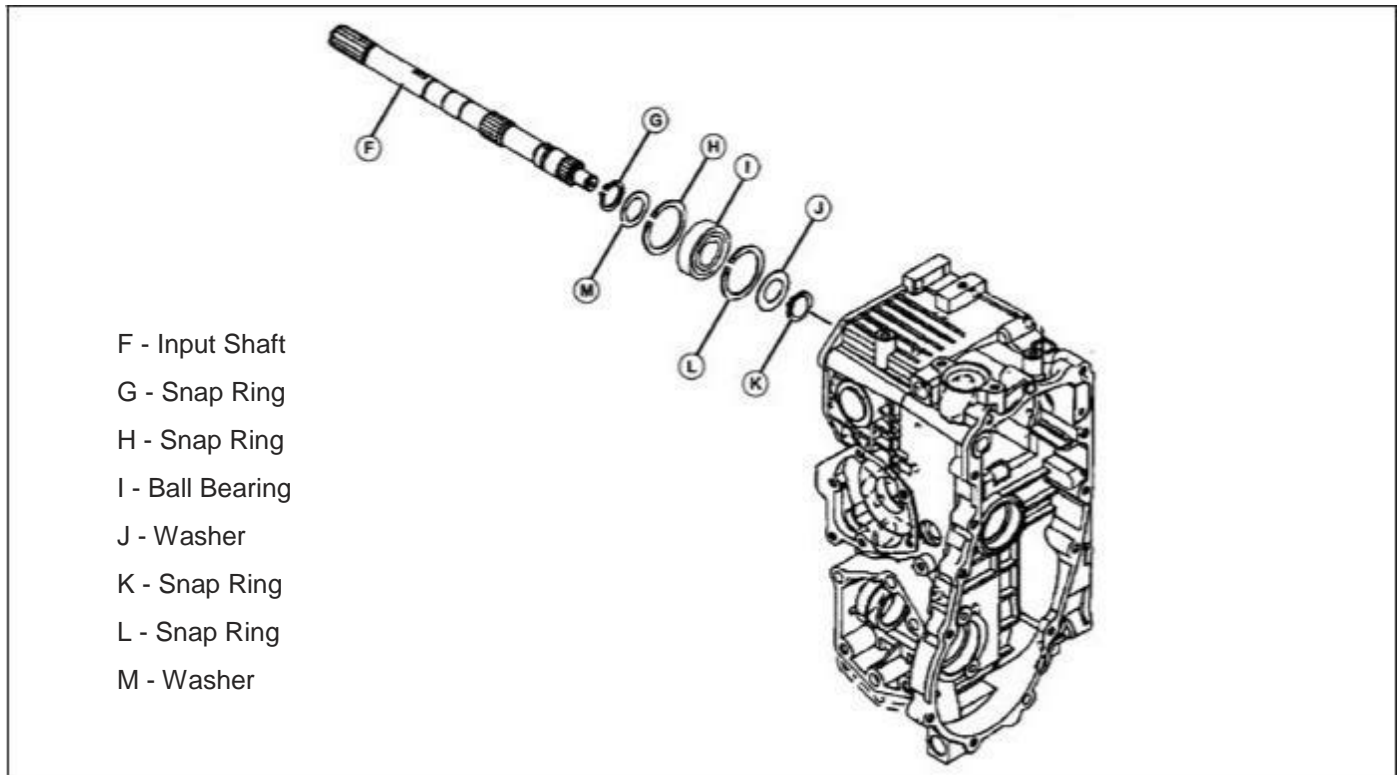

Fig. 63, Transaxle Input Shaft Disassembly
6. Remove PTO brake shoe (B) and clutch (A). (See "PTO Brake Removal and Installation" on page 6.)
7. Remove large snap ring (H) and input shaft assembly.
8. Remove large snap ring (L), small snap rings (G and K) washers (M and J), and ball bearing (I) from input shaft (F). (Fig. 63)